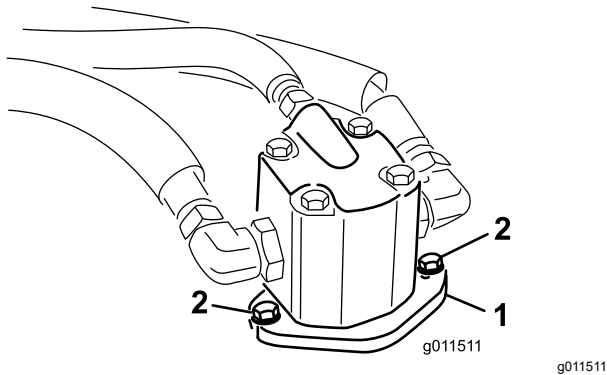

Figure 81
- Remove the bolts securing the hydraulic motor to the cutting unit (Figure 81).